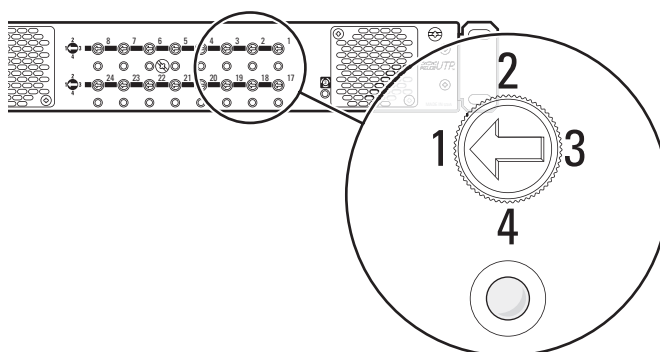

Figure 8. Factory Default Dial Position (32-channel model shown)
For optimal tuning, adjust the rotary switch located on the front panel to the correct color video range position. Refer to Figure 8 and Table D, and then complete the following steps:
2. Observe the video on the monitor. If required, turn the rotary switch on the front panel to match the color video range (cable length) of the device connected to the receiver. Refer to Figure 8 and Table D for rotary switch positions and cable lengths.